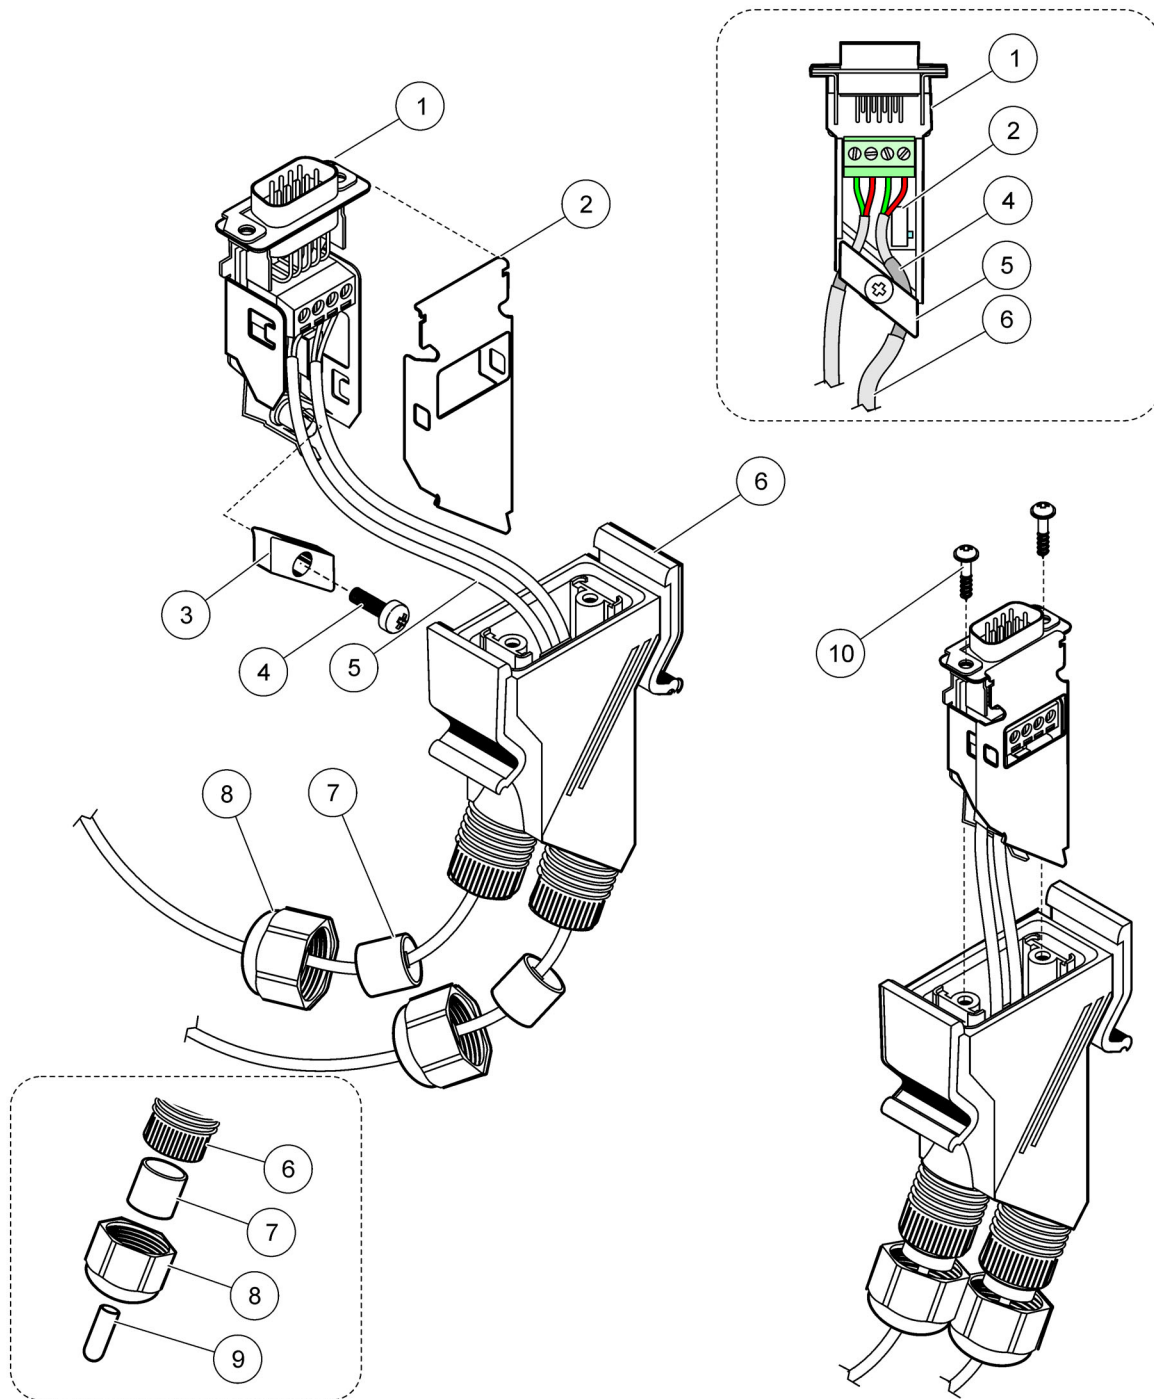

Figure 31 Connecting the network connector to the SC1000 network terminating resistor
2. Feed the cable through the union nut, rubber seal, and connector housing (Figure 31).
**Note:** When using the connector with the last module on the network segment, one union nut remains unused. Seal the union nut with the plug supplied. Refer to Figure 31.
2 Use this plug if the cord grip is not used, refer to inset in Figure 31.